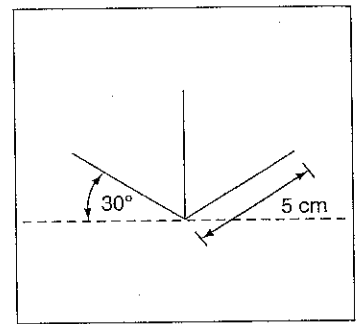

Figure 5-62: Step 2.
- Step 2.** The sides of the box are drawn at 30 degrees to the horizontal to the required length (see Figure 5-62).